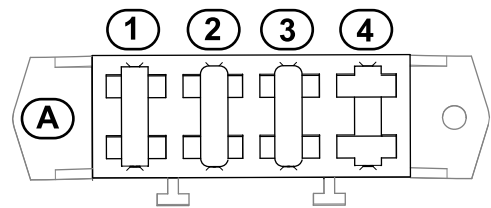

Figure 27
4. If any fuse is blown, replace them with a fuse of the appropriate voltage and amperage (Figure 27). Refer to the traction unit *Service Manual* for specific fuse part numbers.
3. Check the fuses in the fuse block (Figure 27).